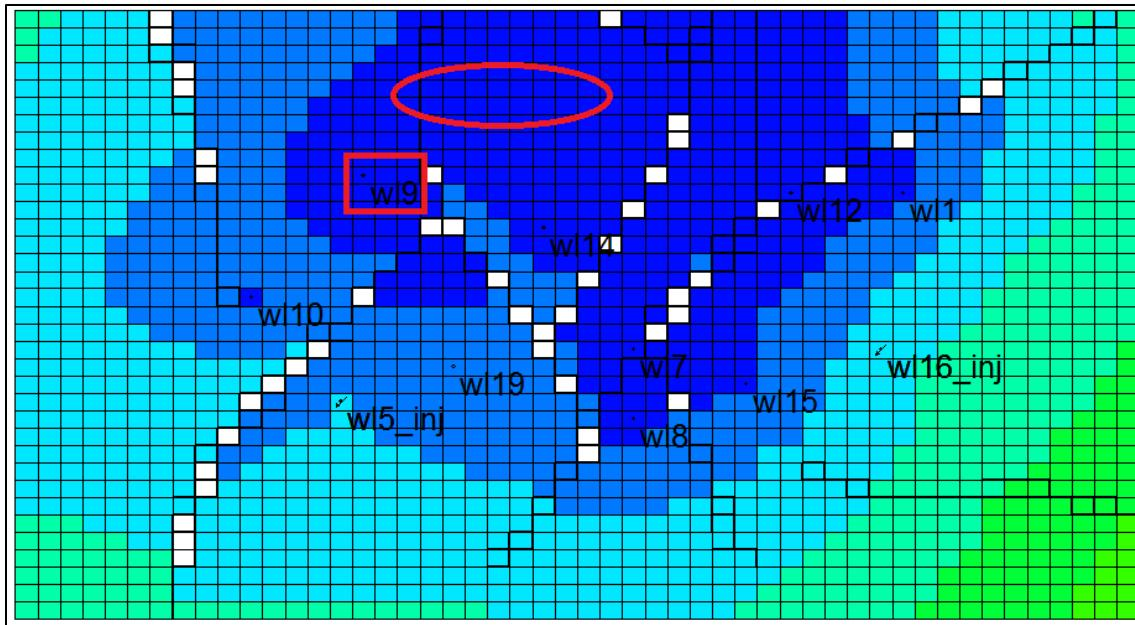

Figure 88: Location of neighbor wells
6. In order to assign an appropriate group of constraints for the new well, we need to look at other producer wells located in the same area. As can be observed in Figure 88, **WI9 is located in the same area** of the new proposed well, so we will use the same Bottom Hole Pressure values for prediction, **BHP=5707 kPa**.